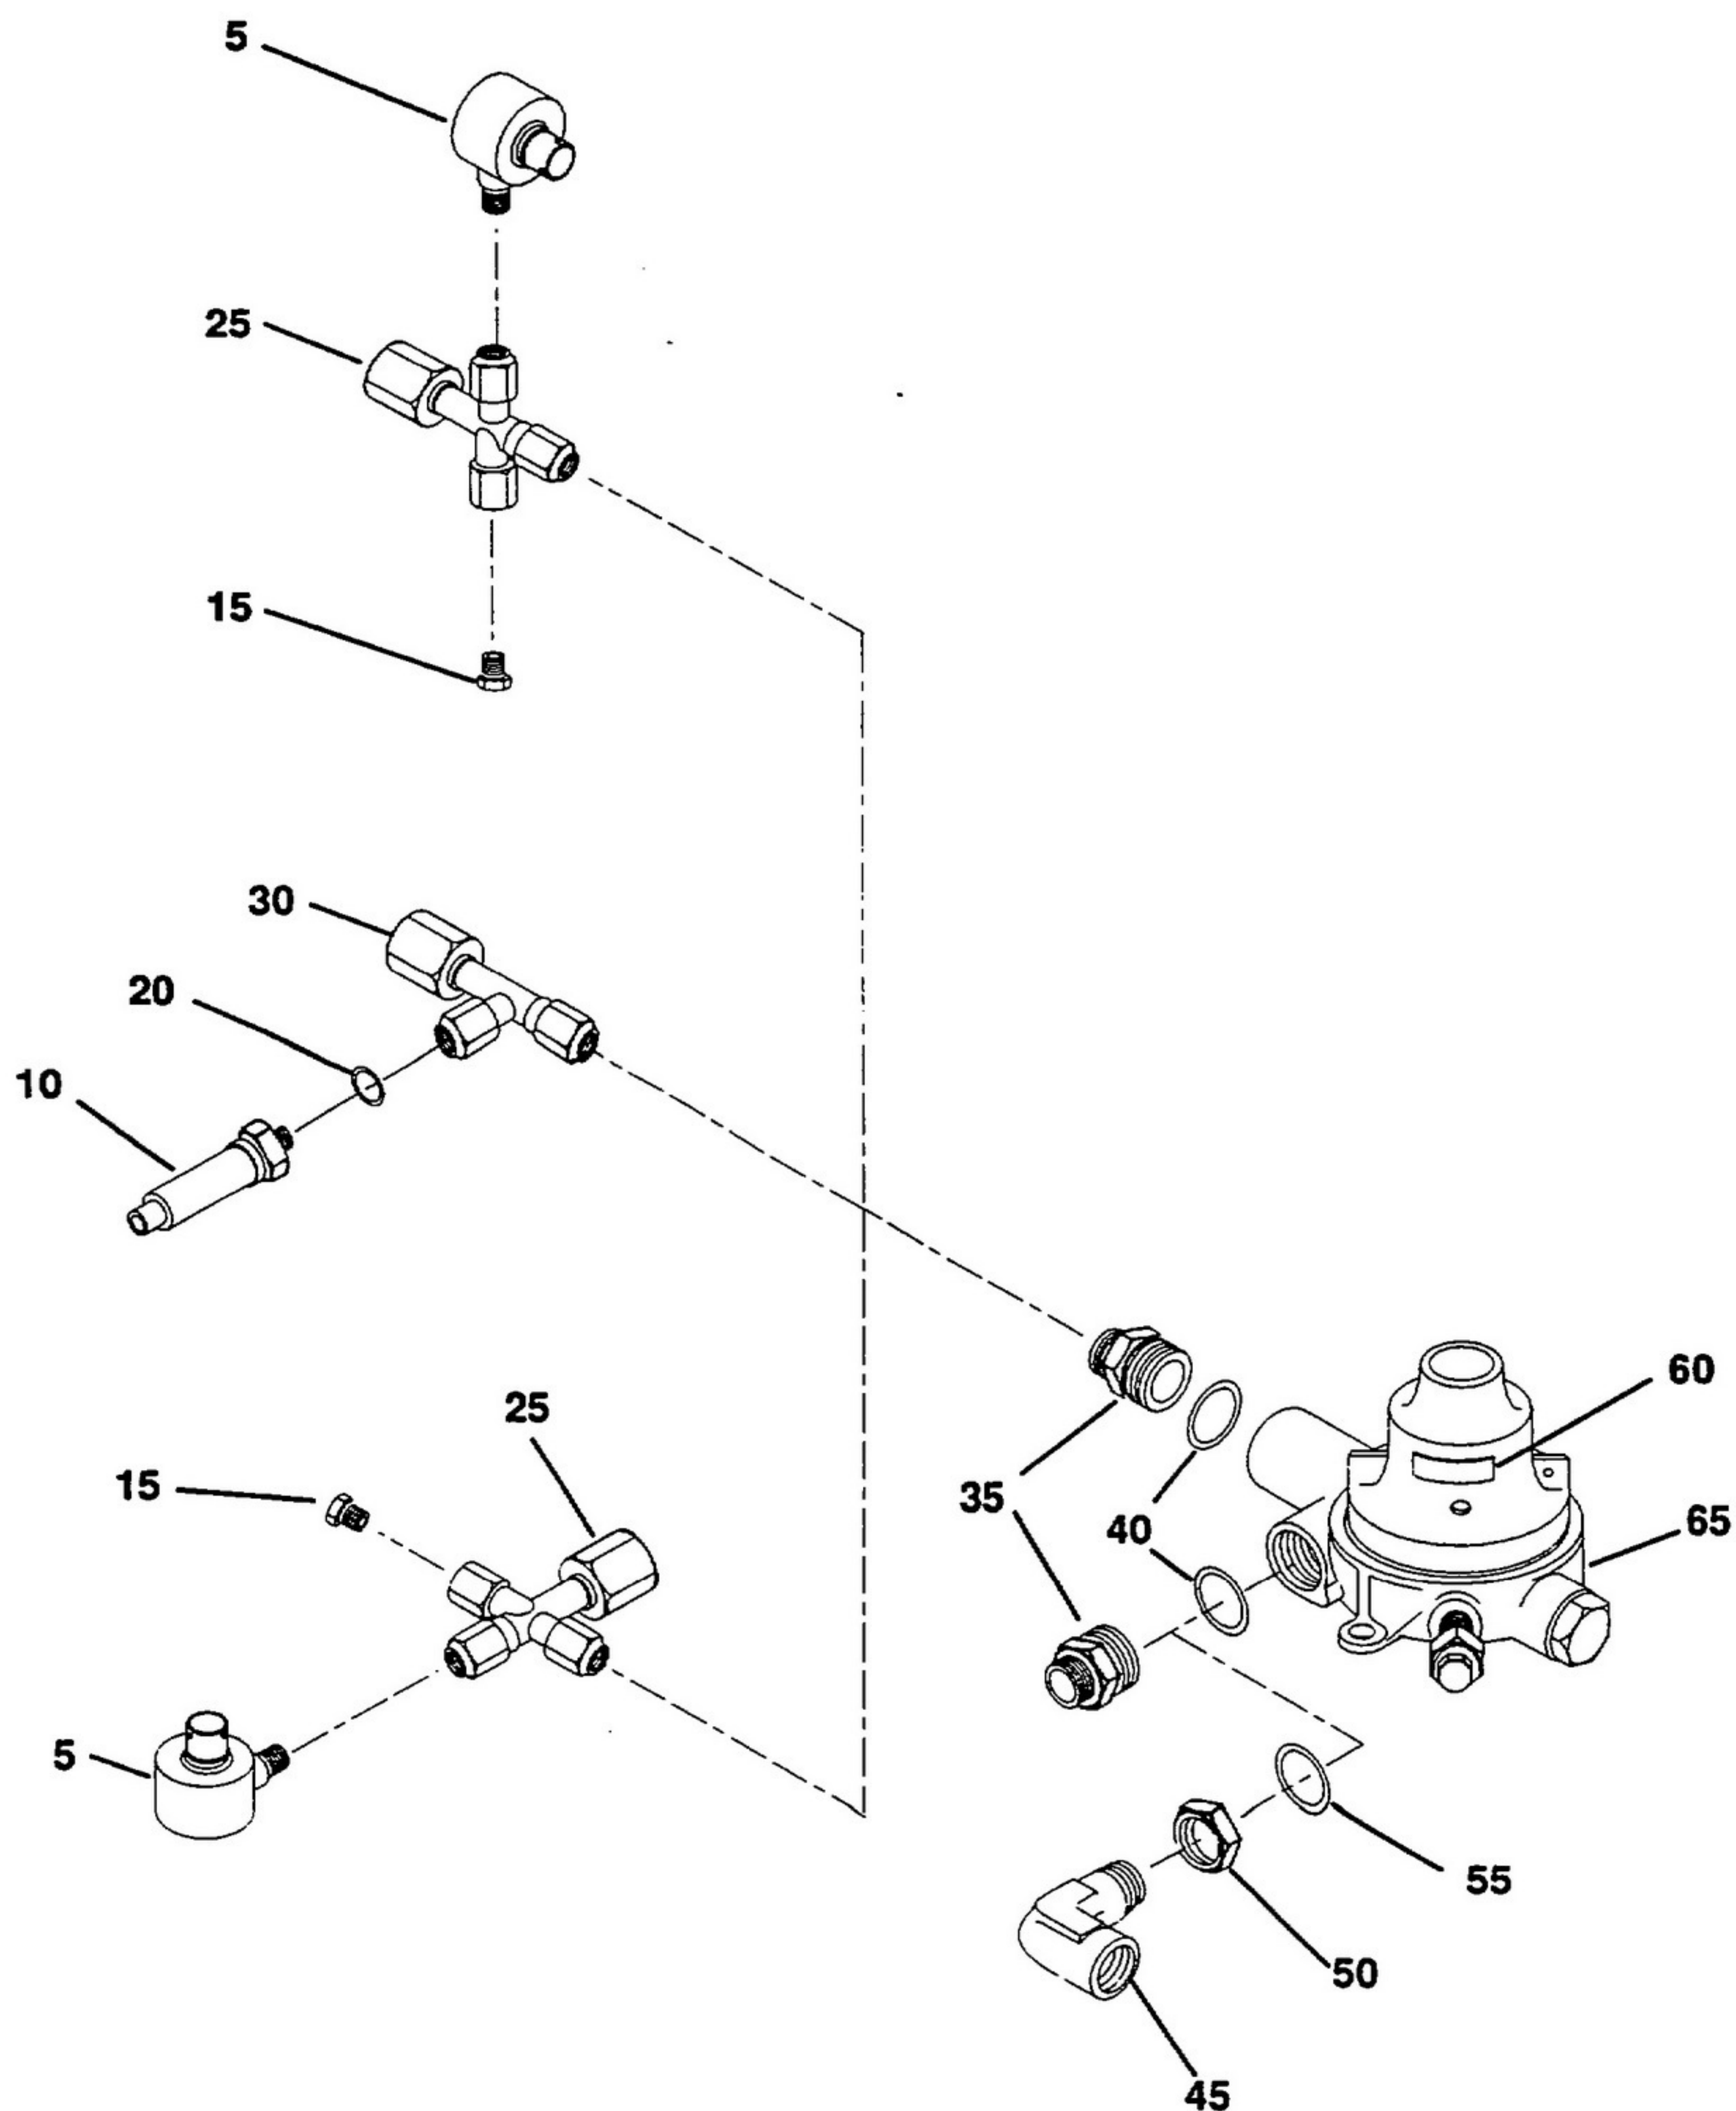

Figure 1
A. Parts used on only one part number Crew Oxygen System Regulator, Transducer and Coupling Assembly, or one part number of the Transducer and Coupling Assemblies (see IPL Figure 1), are indicated by a single letter symbol immediately following the description of a part in the "EFFECT CODE" column. An explanation of the letter symbols used is outlined below in Table 1001. A blank "EFFECT CODE" column following a part number indicates that the listed part is common to all regulator assemblies.